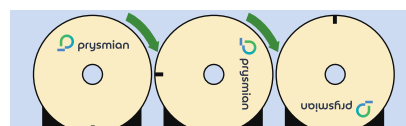

Fig. 3
- ✔ The bolts should be tightened at regular intervals. During storage, the drums should be rolled to an angle of 90°C every three months (see fig. 3).